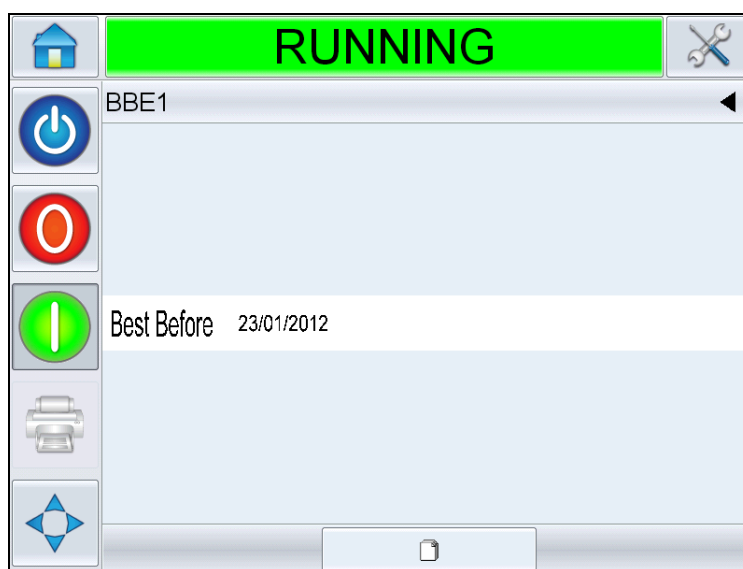

Figure 6-2: Current Job Details Display
- 2 This will display a preview of the job, as shown in Figure 6-2.